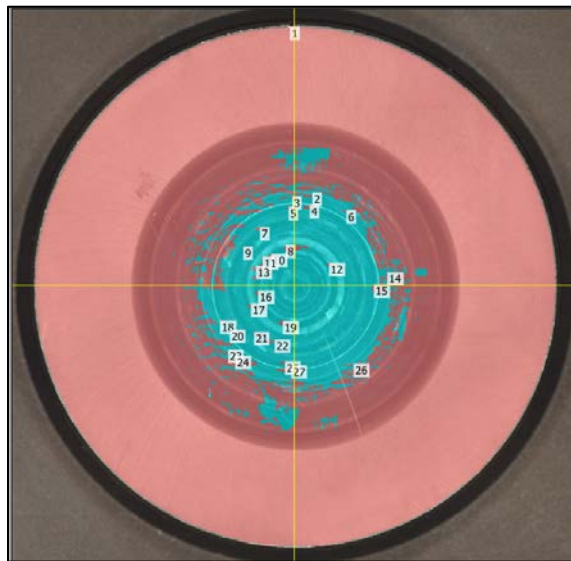

Figure 15 - Illustration of Region of Lifter below Standard Evaluation Depth
- 12.1.1. These high-wear lifters are identified by the presence of a large blue region near the center of the lifter image on the **Volume & area 2** tab (as shown in Figure 15).